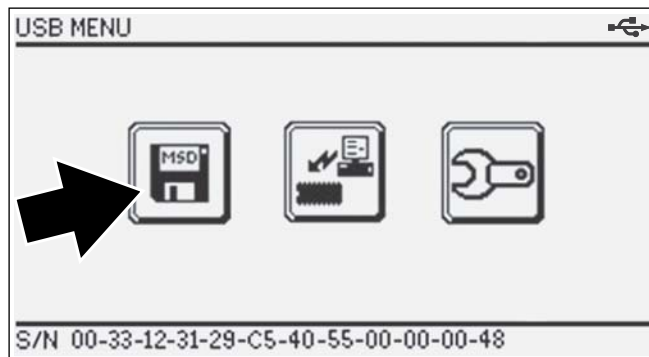

Figure 5-7 USB menu
The MICROSCAN III automatically powers up and displays the USB Menu (Figure 5-7).
2. Select the **Connect to PC** icon (Figure 5-7).